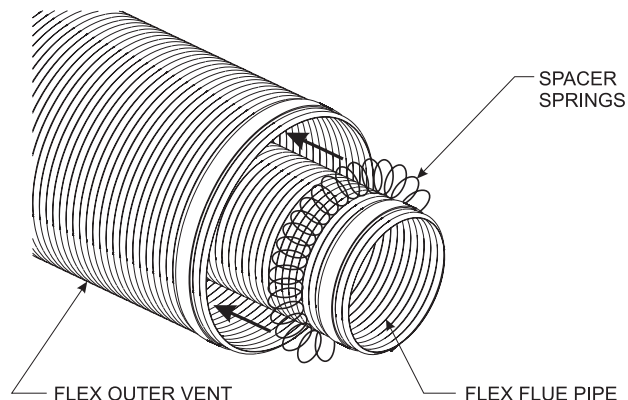

Figure 54
2. Ensure that the vent spacer springs are located at 8 inch intervals along its length. **See Figures 54 and 55.** If not, stretch the spacer springs to about 15 inches long and wrap them around the flue, then interlock the ends of each spring. Maintain equal distance between spring spacers.